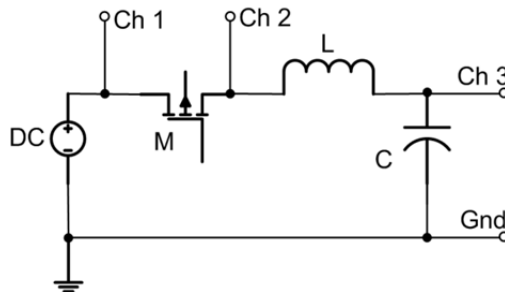

Figure 3: Observing waveforms in oscilloscope.
Note 1: The oscilloscope channels share the same signal GND. Therefore, it is recommended to take precautions while measuring two quantities having separate reference potentials. Students are advised to use the circuit connections shown in Figure 3 if you need to take two measurements simultaneously in the oscilloscope.
Consider the circuit shown in Figure 3 where two waveforms are required to be measured simultaneously while their reference potentials are different. As an example, if you need to see the waveforms across MOSFET (M) and capacitor (C), connect the positive terminals of oscilloscope probes according to Figure 3. The negative terminal of any one of the oscilloscope probes should be connected to the reference terminal (Gnd) of the circuit. Now the voltage across "M" = (Ch1 – Ch2) and you can perform this calculation using the oscilloscopes internal math functions. Waveform across "C" is obtained from Ch3.